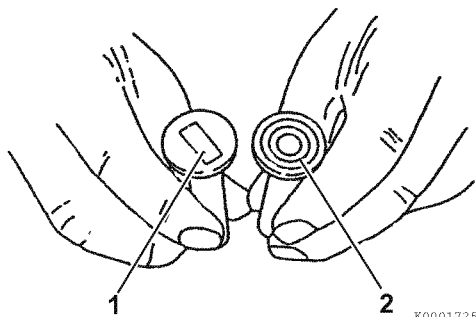

Figure 6-73
1. Inspect the tappet contact surfaces for abnormal wear (**Figure 6-73, (1)**). Normal wear will be even as shown in (**Figure 6-73, (2)**). Slight surface defects can be corrected using an oilstone.